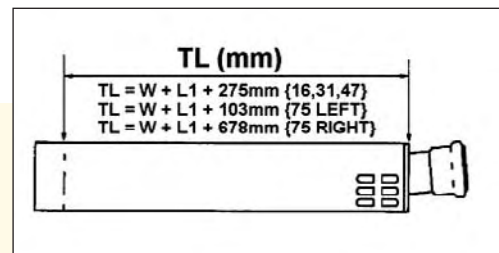

Fig 11.4e
- 5) Mark the Horizontal Wall Terminal, and flue extensions if required, a distance of 'TL' from the outer edge of the Air Pipe. Both tubes should be cut flush and square with each other, and any burrs removed. See fig 11.4e.